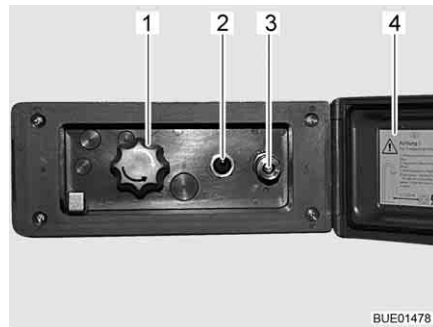

Fig. 154 External shower connection point
- Unlock and open the cover (Fig. 154,4).
- Attach hose of the external shower to the quick closure (Fig. 154,3).
- Switch on the water pump using the switch (Fig. 154,2).
- Adjust the water temperature with the rotary knob (Fig. 154,1) as desired.
- Switch off the water pump using the switch (Fig. 154,2).
- Close the cover (Fig. 154,4) and lock with key.
- Turn knob (Fig. 154,1) to the centre position.